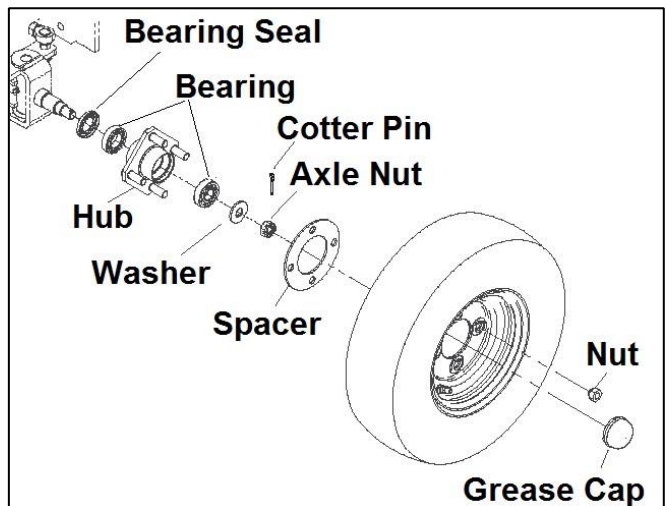

Figure 6-3
3. 4-Wheel Models: See Figure 6-3. Remove lug nuts and wheel assembly from the hub. Remove the spacer and hub components shown in Figure 6-3. Repeat for the other front wheel.
3. 4-Wheel Models. See Figure 6-3. Install bearing seal and inner bearing, hub, bearing, washer and axle nut. Tighten axle nut until resistance is felt when turning the wheel hub, then back off until cotter pin can be inserted, then install new cotter pin. Install spacer and grease cap. Repeat for other wheel. Place wheel assembly on the hub studs. Tighten four lug nuts by hand and wrench until snug using a criss-cross pattern.